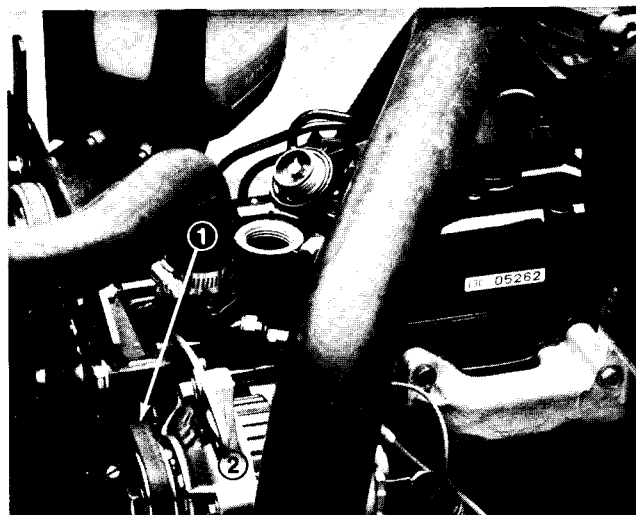

Figure 39
3. Loosen alternator brace bolt and support bolt (Fig. 39). Push the alternator in towards the engine.